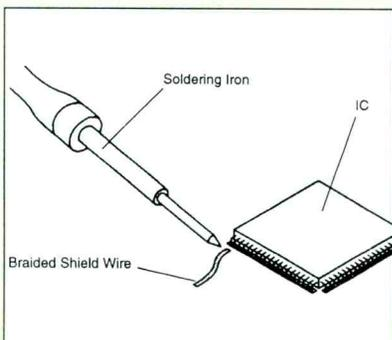

Figure 7.
3. Absorb the solder left on the lead using desoldering braid (Figure 7). Note: do not absorb the solder to excess.